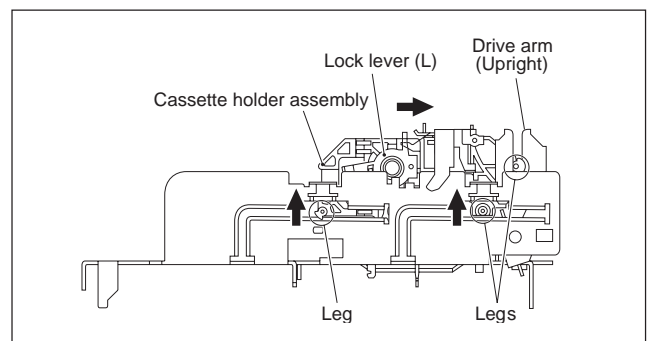

Fig.3-2-3c
- (4) While swinging the lock levers (R) and (L) of the cassette holder assembly toward the front, slide the cassette holder assembly until its legs come to where the guide rail and the roller cam assembly have been removed (so that the drive arm is upright). (See Fig.3-2-3c.)